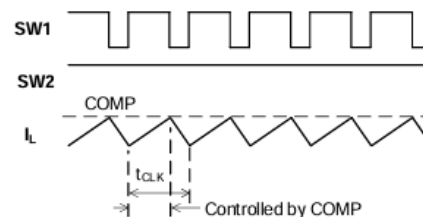

Figure 6: Buck Mode Waveform
In each cycle, SWA turns on to conduct the inductor current. SWA turns off until the inductor current reaches the COMP voltage (VCOMP), and SWB turns on until the tCLK times out. An internal oscillator controls SWA's off time to maintain a fixed frequency. The COMP signal is an error amplifier (EA) output from the VOUT feedback and internal feedback reference voltage (VFB). Therefore, VCOMP controls the inductor current to supply the output terminal voltage. Figure 6 shows the buck mode waveform.